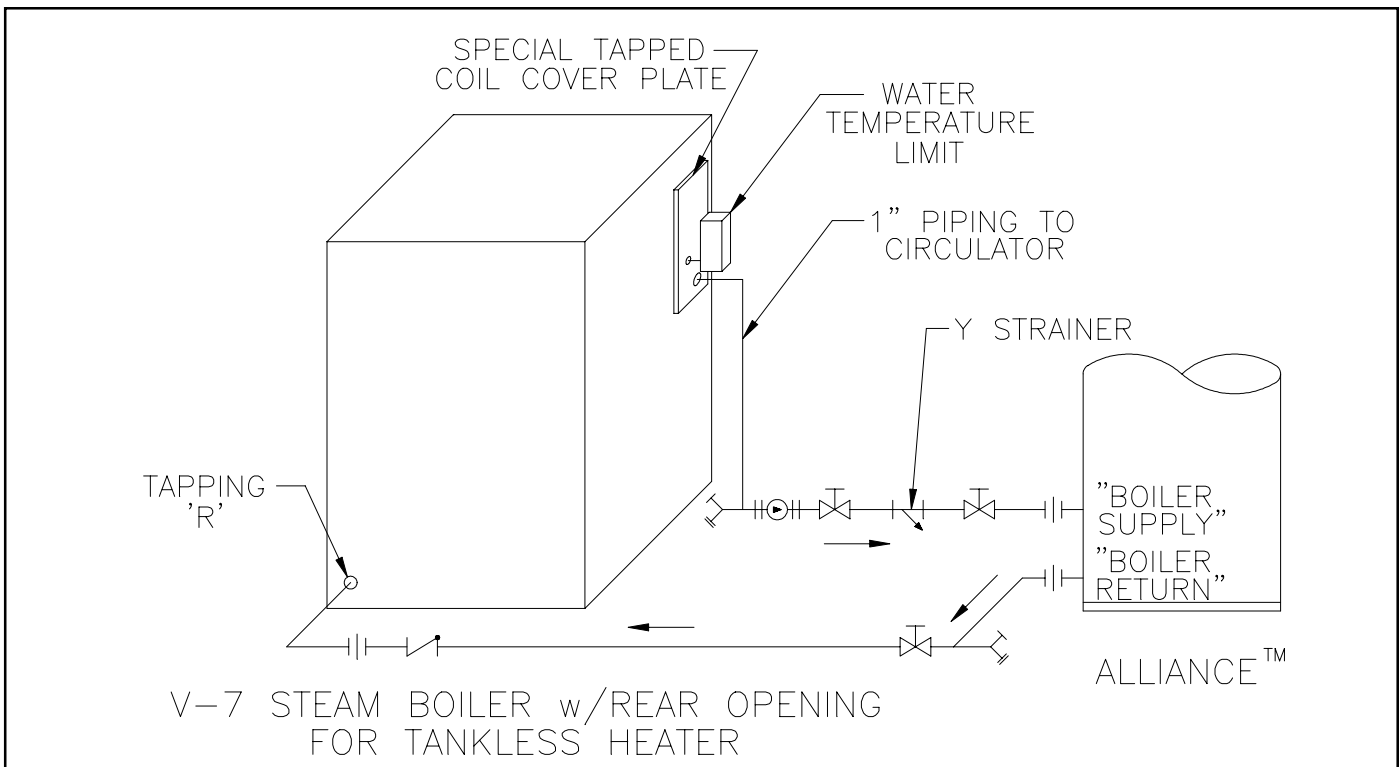

Figure 7
H. Connect steam boiler piping (See Figures 7 thru 10).
1. Burnham V-7 Series steam boiler (Refer to Figure 7).